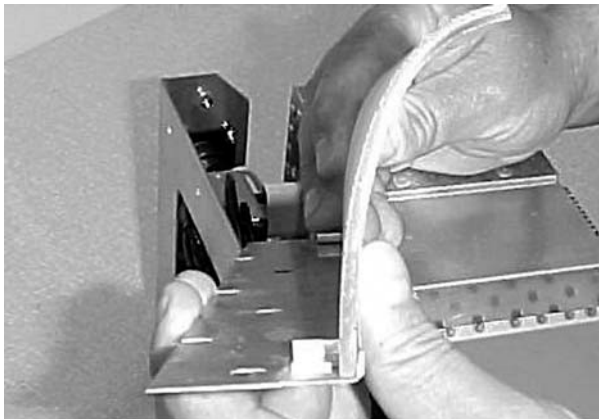

Figure 4-7 Flood Reflector Curve and Retaining Bracket
**Flood Reflectors:** See Figures 4-7 and 4-8. The edge of the reflector sits on the retainer springs on the inside edge of the bracket.